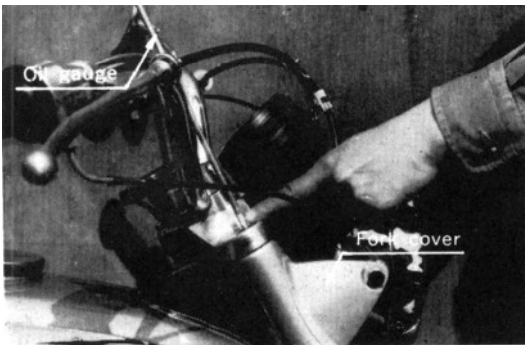

Fig. 100 Checking oil level
3. Fill each fork tube with 220cc of fork oil. (Do not use hydraulic brake fluid) (Fig. 100) The oil level is checked with an oil gauge: Correct level depths are 45mm (1.77 inches)